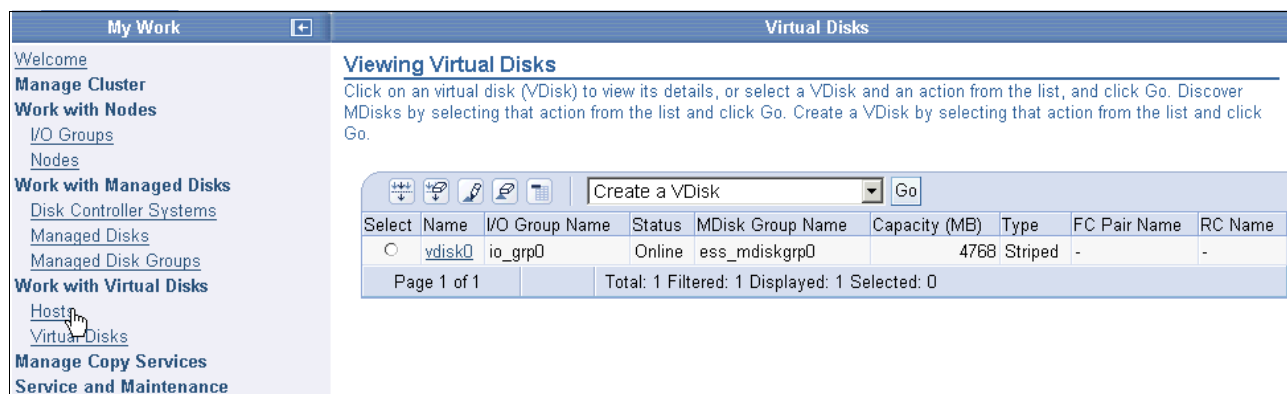

Figure 12-22 Viewing Virtual Disks
1. As shown in Figure 12-22, select **Create a vDisk** from the list and click **Go**.